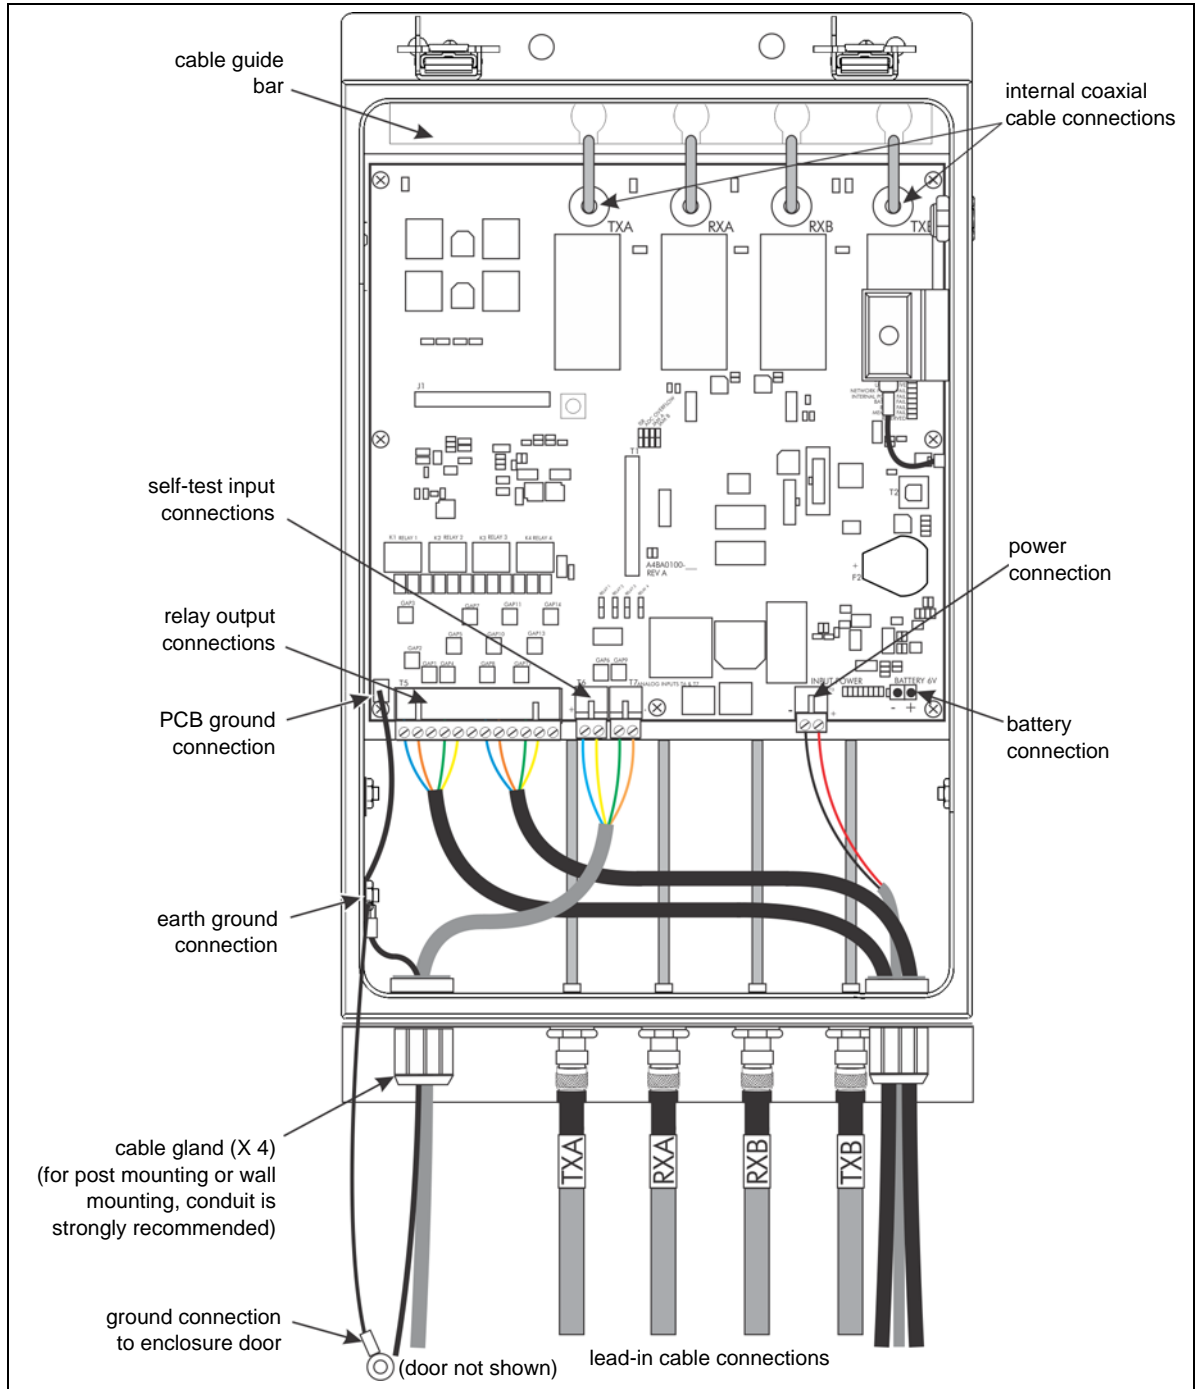
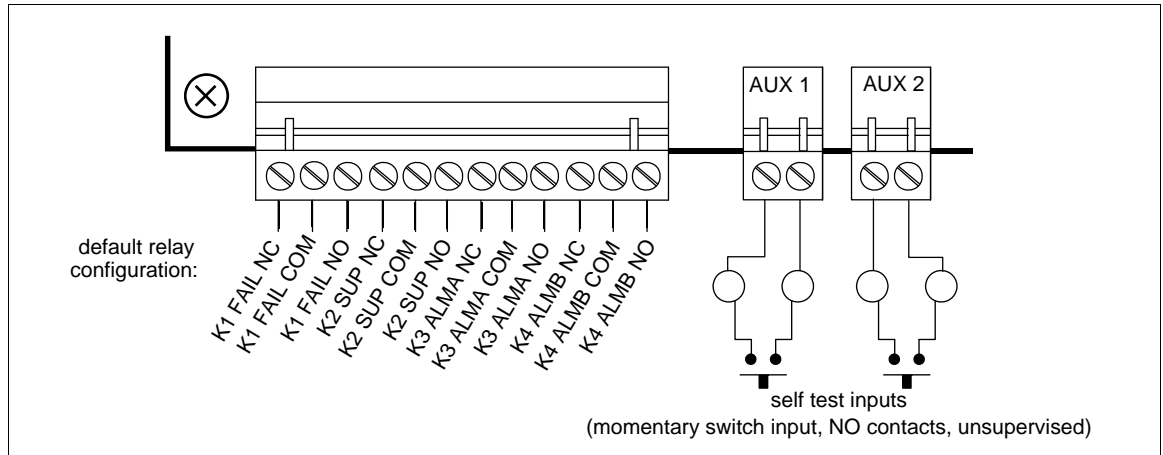

Figure 151: Local control mode wiring connections
Figure 153: Local control mode input/output wiring
AUX 1 and AUX 2 are voltage sensing inputs. The processor determines an input's status via an internal reference voltage. The contact closure inputs **MUST** be voltage-free. In local control mode, you connect normally open (NO) momentary switch inputs to the Aux inputs. Figure 153 illustrates the relay output configuration and the self-test input wiring for the OmniTrax processor in local control mode.
4. Refer to Figure 151: and Figure 153: to make the I/O wiring connections.